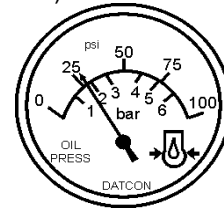

Figure 48. Oil Pressure Gauge
13. The engine oil pressure gauge (Figure 48) will indicate the oil pressure (kg/cm²) of the engine. Under normal operating conditions the oil pressure is between 28 ~71 psi (193 ~490 kPa).